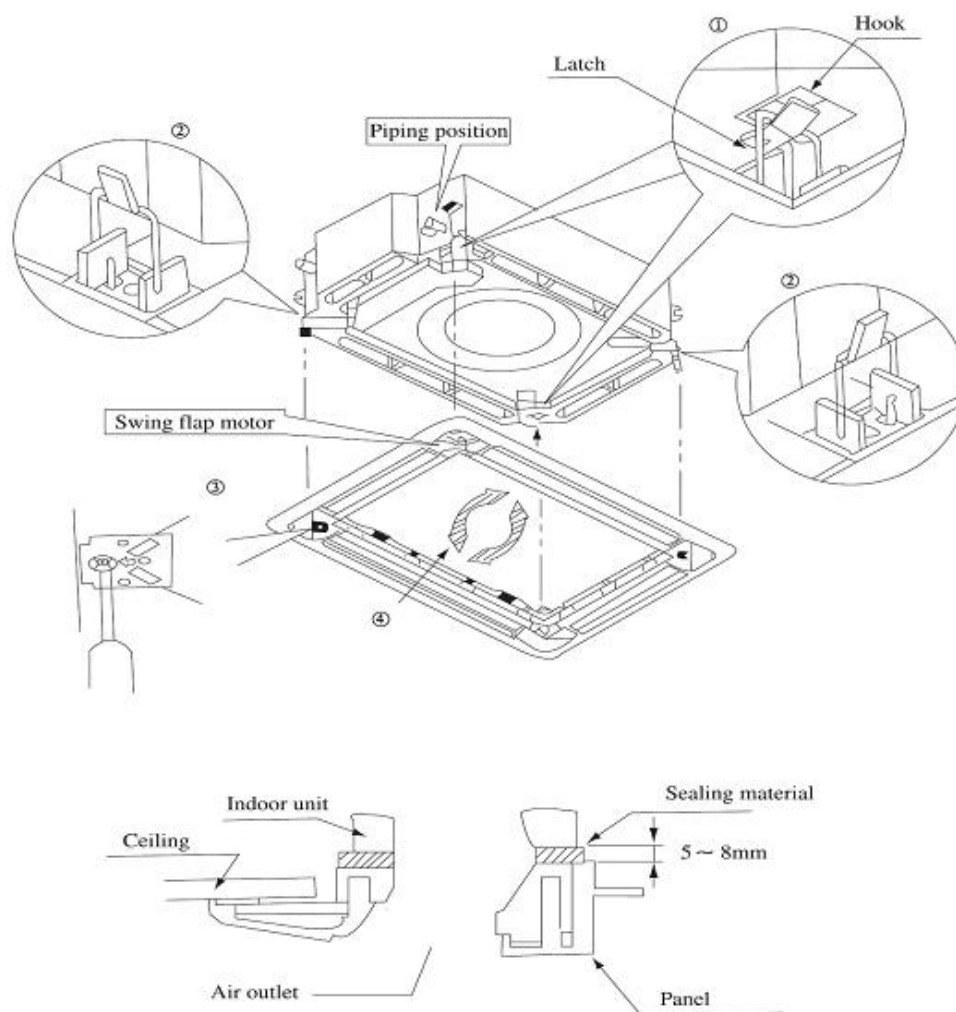

Figure 1-3-13
- 1) Set the panel to the indoor unit body by matching the position of the swing flap motor of the decoration panel to the piping position of the panel to the piping position of the indoor unit as shown in Figure 1-3-13.